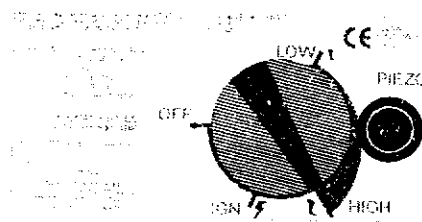

Fig. 12 – High output.
2. With the control knob at "IGN" setting, turn in an anti clockwise direction to "HIGH" setting (Fig. 12).